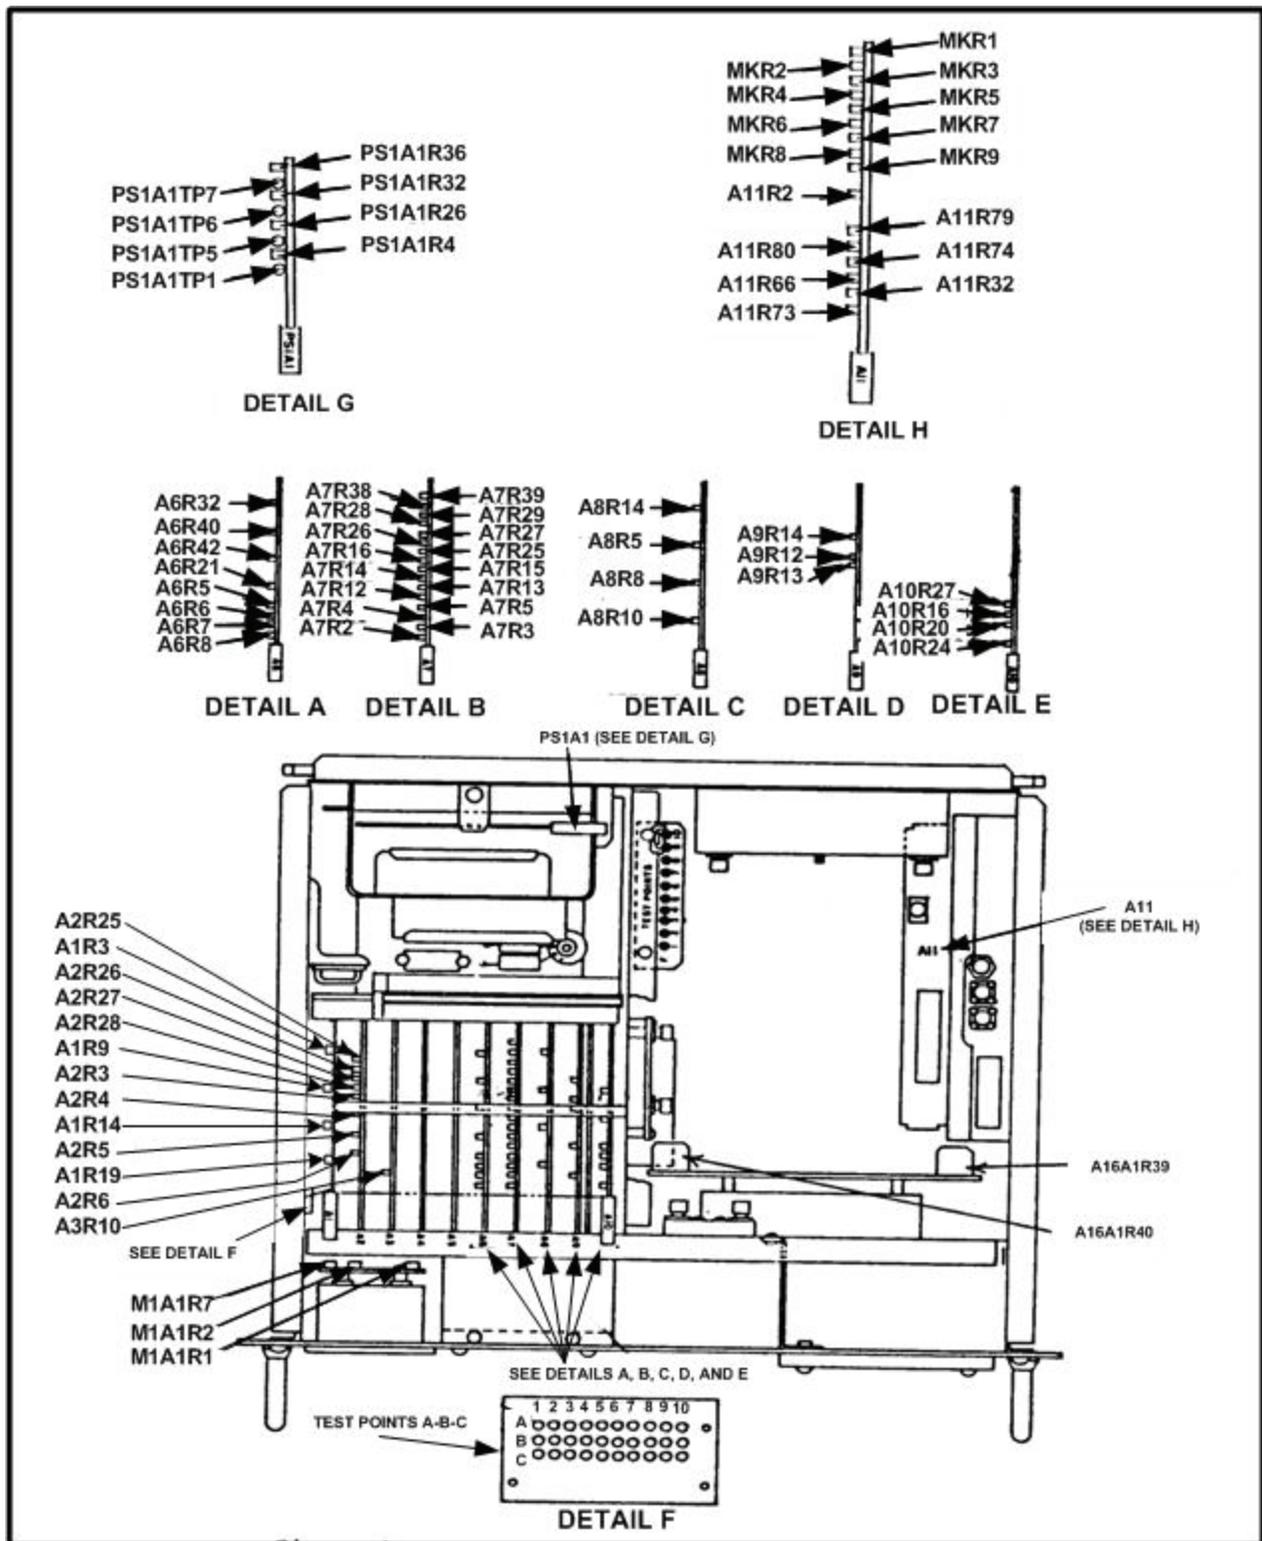

Figure 1. Test point and adjustment locations.
(1) Adjust A1R9 (fig. 1) for a frequency counter indication of 1000 Hz (R).
(2) Connect oscilloscope to A10TP3. Adjust **PRF SELECT MULT** control until frequency counter indicates 5000 Hz.
(3) Adjust A10R27 (fig. 1) for a pulse width of 99.0 μs as indicated on oscilloscope (R).
- (1) Adjust A9R12 (fig. 1) for a pulse amplitude of 2.5 V as indicated on oscilloscope (R).
- (2) Adjust A9R13 (fig. 1) for a pulse amplitude of 1.7 V as indicated on oscilloscope (R).
- (3) Adjust A9R14 (fig. 1) for a pulse amplitude of 1.0 V as indicated on oscilloscope (R).
- (1) Connect **SCOPE TRIG OUT** to oscilloscope **CH1** input, using 93 Ω cable 93 Ω and termination. Connect **AUX TRIG OUT** to oscilloscope **AUX TRIG IN**, using 93 Ω cable.
- (2) Set **PRF SELECT RANGE** switch to **X1K** and **PRF SELECT MULT** control to 1.0. Oscilloscope will display a pulse with an amplitude between 4.0 and 6.0 V and a width of 1.0 to 5.0 μ s.
- (3) Set **SCOPE TRIG/FREQ MEAS DELAY (μ SEC) RANGE** switch to **X0.4** and **PRF SELECT MULT** control to **10.0**.
- (4) Measure risetime and falltime using standard measurement techniques. Risetime will be less than 0.1 μ s and falltime will be less than 0.5 μ s.
- (5) Reverse the cable connections at the **TI SCOPE TRIG OUT** and **AUX TRIG OUT**.
- (6) Adjust oscilloscope controls as required for a pulse display centered on CRT. A pulse amplitude of 17 to 23 V with a pulse width of 0.5 to 1.5 μs will be displayed on oscilloscope.
- (7) Measure risetime and falltime using standard measurement techniques. Risetime will be less than 0.1 μs and falltime will be less than 0.2 μs .
- (8) Set **SCOPE TRIG/FREQ MEAS DELAY (μSEC) RANGE** switch to **OFF**.
- (9) Connect oscilloscope **CH2** input to TPA5 (fig. 1) using X10 probe.
- (10) Measure delay between leading edge of signals on oscilloscope **CH2** and **CH1** inputs. Delay will be between 3.0 and 5.0 μs .
- (11) Disconnect probe from TPA5.
- (12) Position controls as listed in (a) through (c) below:
- (13) Connect oscilloscope **CH2** input to TPA2 (fig. 1) using X1 probe. Leading edge of pulse on **CH 1** will be 0.5 μs or less from trailing edge of pulse on **CH2**.
- (14) Set **AUX TRIG** switch to **OFF**. Pulse on **CH1** will disappear. Set **AUX TRIG** switch to **ON**.
- (15) Set **SIG GEN FUNCTION** switch to **FIXED FREQ** and reverse **MEASUREMENT SCOPE TRIG OUT** and **AUX TRIG OUT** connections on TI.
- (16) Adjust **SCOPE TRIG/FREQ MEAS DELAY (USEC) MULT** control to 1.0 and **SCOPE TRIG/FREQ MEAS DELAY (USEC) RANGE** switch to **X0.4**.
- (17) Measure delay between leading edge of signals on oscilloscope **CH1** and **CH2** inputs. Delay will be between 0.3 and 0.5 μs .
- (18) Position controls as listed in table 5. Delay as measured on oscilloscope will be within limits specified, if not, perform adjustments as listed in table 5.